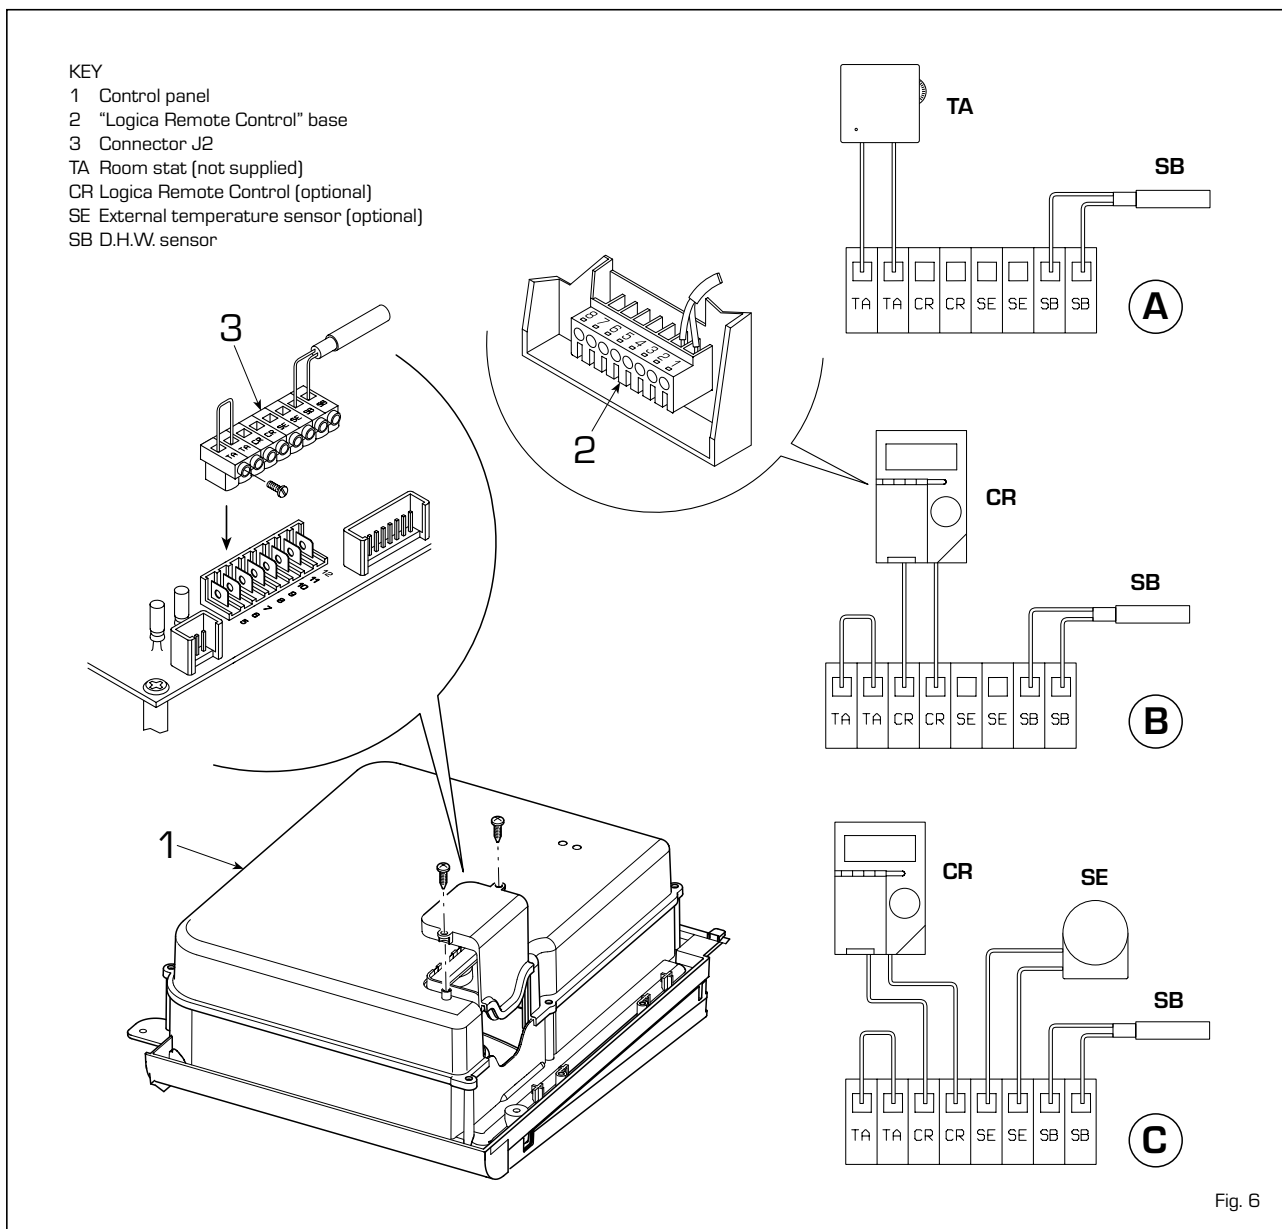

Fig. 6
The SB must be connected to the electronic control panel of the boiler as shown in fig. 6. To aid installation an optional hydraulic connection kit is available, code 8076104 ("BT130") and code 8076105 ("BT150"). Detailed instructions on assembling the kit are given in the packaging.
2.6.1 Room stat connection (fig. 6 pos. A)
2.6.2 "Logica Remote Control" connection (fig. 6 pos. B)
2.6.3 External temperature sensor connection (fig. 6 pos. C)
D.H.W. sensor (SB) to be connected to the J2 connector (3 fig. 6)